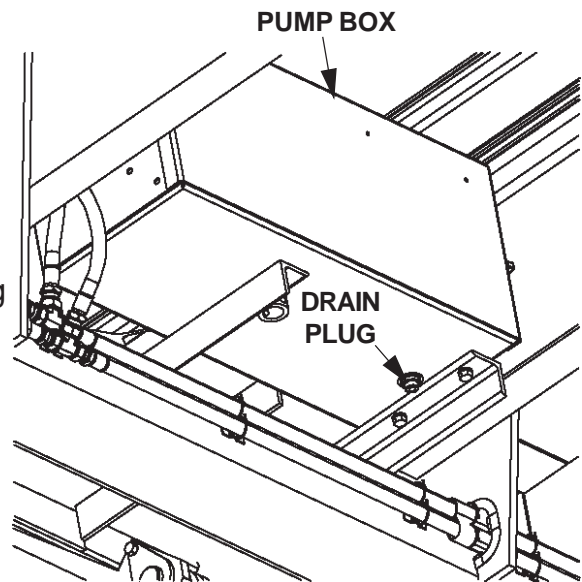

FIG. 11-1
2. Open and raise Platform to vehicle bed height. Remove the Drain Plug (FIG. 11-1). Drain hydraulic fluid.